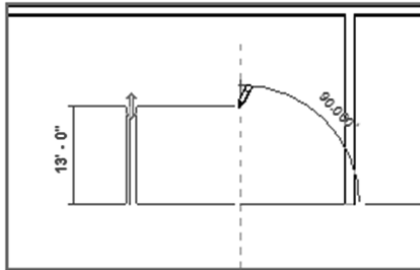

FIGURE 2.19: By using the Offset command as you draw walls, you can use one common centerline.
8. After you pick the 25' (7500 mm) distance, move your cursor up, back toward the wall, as shown in Figure 2.19, resulting in a 25'-long (7500 mm) wall.